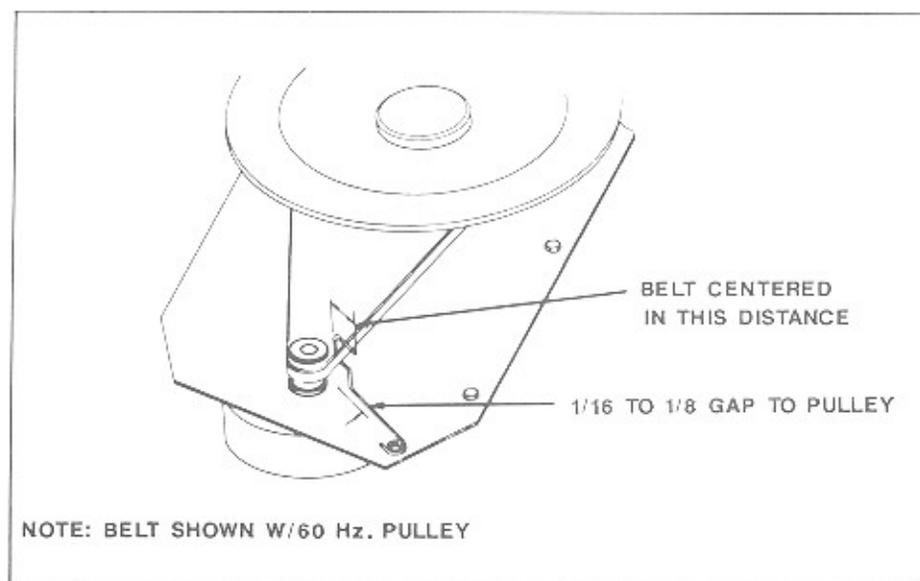

Figure 3-22. Belt Guide Adjustment
2. Adjust as shown in figure 3-22.